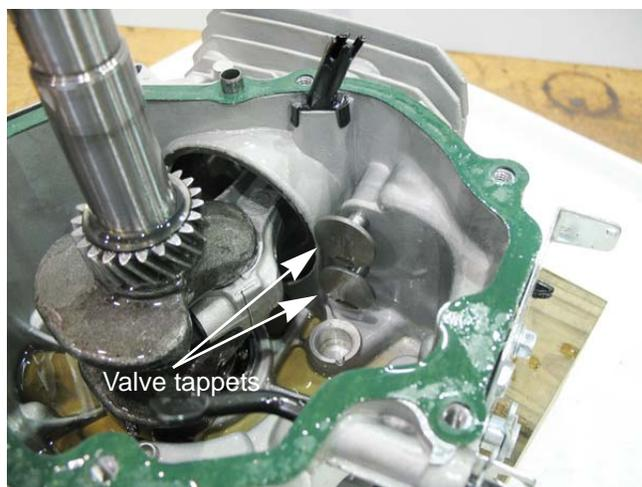

Figure 10.4
12. Remove the valve tappets. See Figure 10.4.